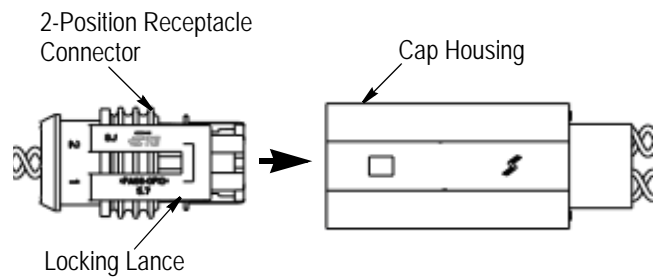

Figure 4
1. Mate the data input cable with the front of the 2-position receptacle connector. See Figure 4, Detail A.
2. Mate the 2-position receptacle connector with the cap housing. Ensure that the locking lance “clicks” into place. See Figure 4, Detail B.